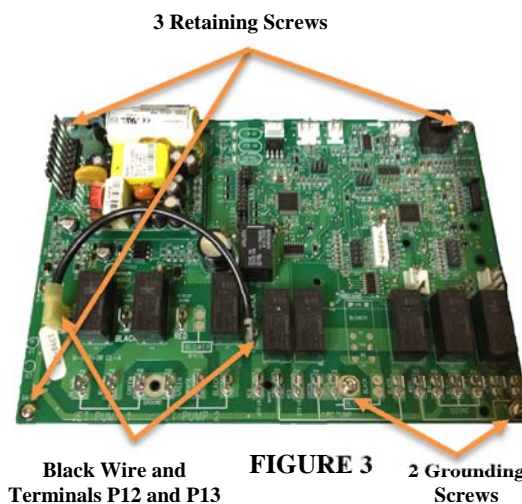

FIGURE 3
1. Disconnect the black wire mounted on the Main PC Board located on terminal P13 and P12 and transfer it to the new Main PC Board. **Figure 3**
2. Remove all five screws securing the PC Board (3 retaining and 2 grounding screws). **Figure 3**